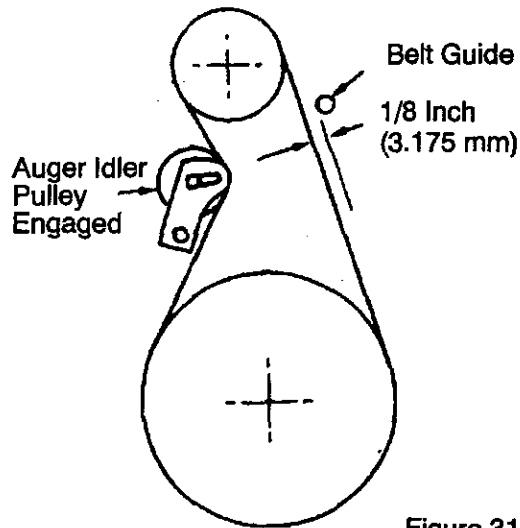

Figure 31
3. Measure the distance between the belt guide and belt. The distance should be 1/8 inch (3.175 mm) for guide. See Figure 31.